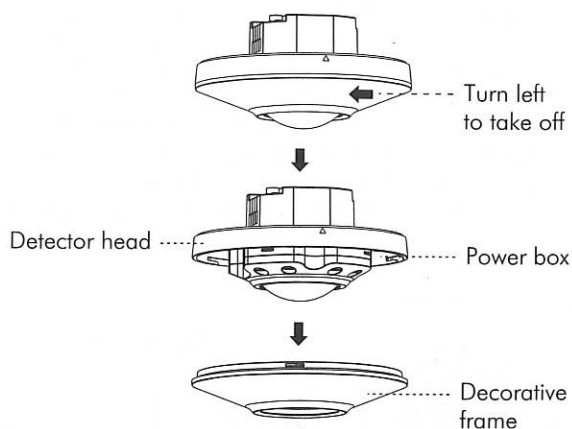

FIG.6
- 3.4.1.1 Take off decorative frame of OS-384i -DALI-230/ OS-384S (See FIG.6).
- 3.4.1.4 Fix the decorative frame (See FIG.6).